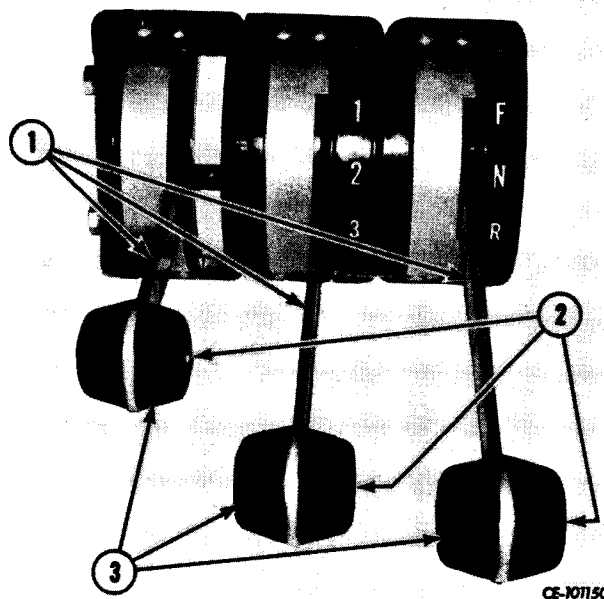

Figure 9-6
Remove cap screws and nuts (2, Fig. 9-6) separating knobs (3) from control levers (1).
Position lever knobs (3, Fig. 9-6) on ends of control levers (1) and install and tighten cap screws and nuts (2).